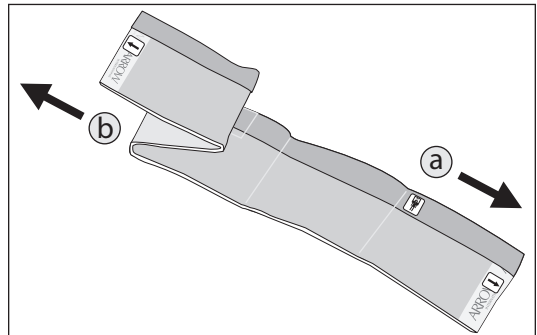

Figure 18
- Unfold width (refer to Figure 18).